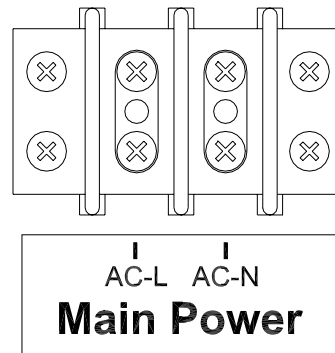

Figure 6 Power Connections
3. Connect the power cable wires to **Main Power** terminal block according to figure 6.